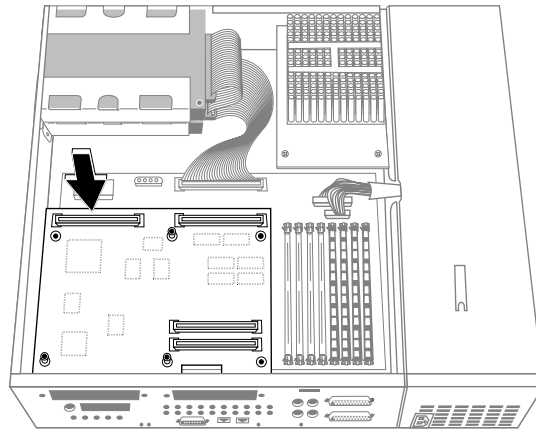

Figure 8-11 Connecting the Graphics Board to the System Board
13. Connect the graphics board to the system board, as shown in Figure 8-11.